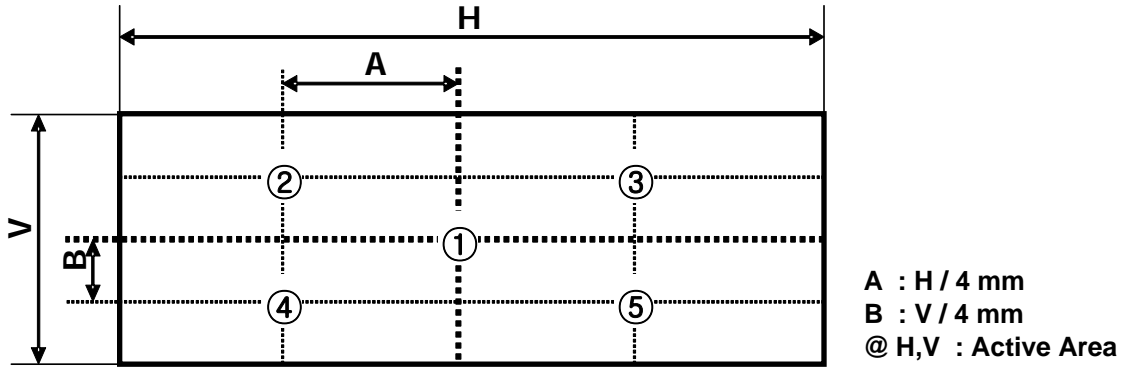

FIG.2 5 Points for Luminance Measure
2. Surface luminance are determined after the unit has been 'ON' and 1 Hour after lighting the backlight in a dark environment at $25\pm 2^{\circ}\text{C}$. Surface luminance is the luminance value at center 1-point across the LCD surface 50cm from the surface with all pixels displaying white. For more information see the FIG. 2.
For more information, see the FIG. 2.